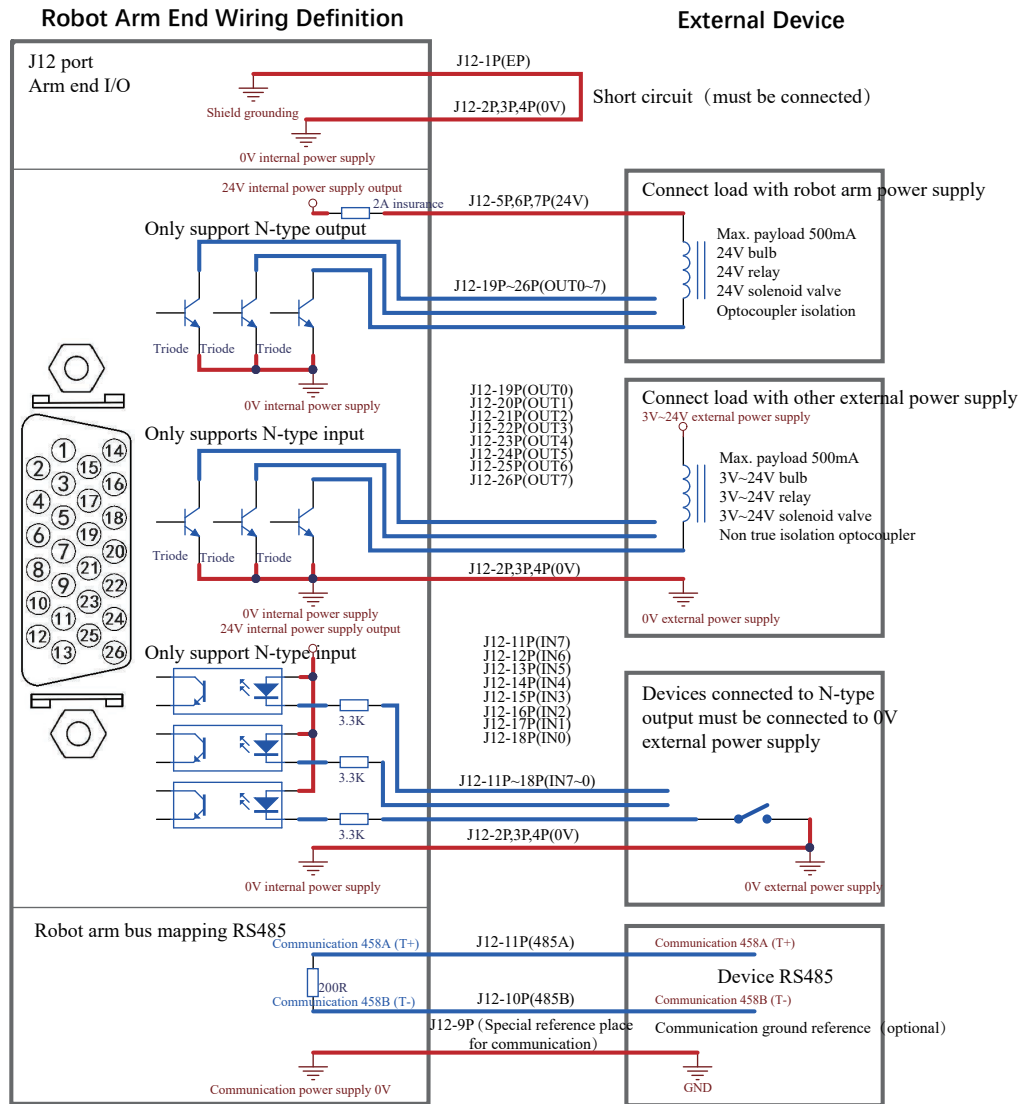

Figure 5
- (1) J10B is a 4-core straight through wire aviation plug to the end of J10A;
- (2) J11B is a 4-core straight through wire aviation plug to the end of J11A.
7. J12 interface internal circuit design (as shown in Figure 5)